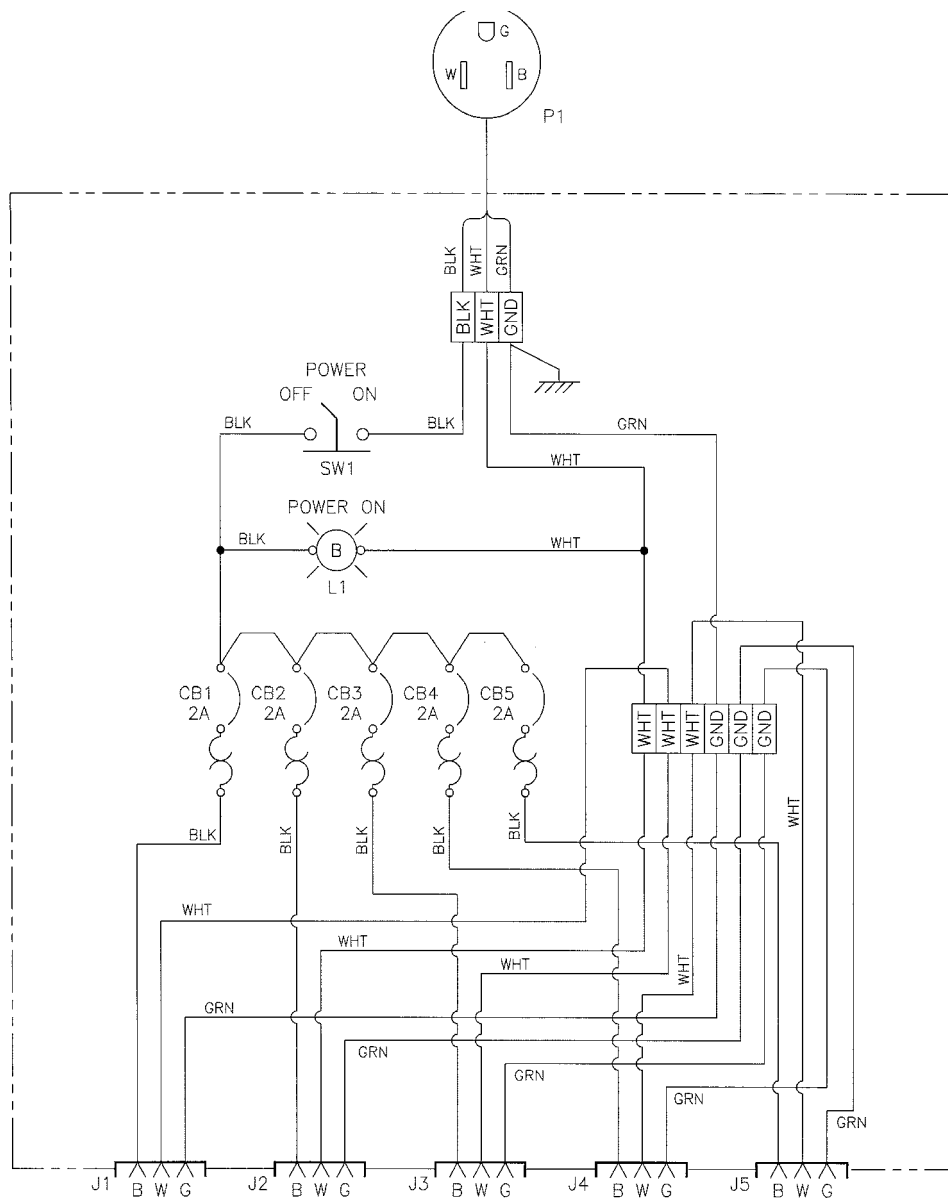

Figure 3. Power Distribution Panel Wiring Diagram.
3. Tag all wires with their position noted. See Figure 3.
2. Install new incandescent lamp (13) if required, using the 6" long section of 3/8" rubber hose found in the tool kit.
5. Connect the wires to the switch using the previously noted tags. See Figure 3.
2. Disconnect three wires (green, black, white) from rear of receptacle. Tag the wires for proper location. See Figure 3.
3. Connect three wires (green, black, white) to rear of receptacle as previously noted. See Figure 3.
1. Remove two black electrical wires from terminal on circuit breaker block (25). See Figure 3.
2. Snap circuit breaker (25) into position.
3. Connect two black wires to terminals on circuit breaker (25). See Figure 3.
3. Connect two black, white, or green wires to appropriate terminals on terminal block. See Figure 3.